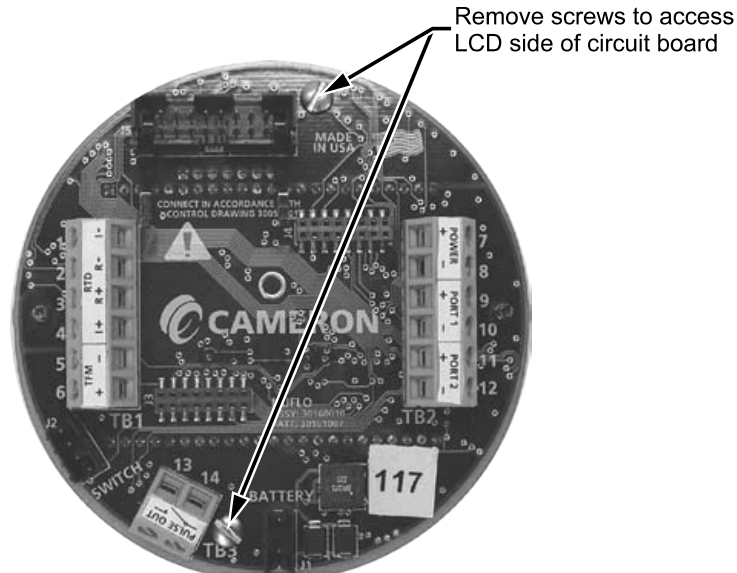

Figure 5.3—Disassembly of circuit board/keypad assembly
9. Remove the two #4-40 × 5/16" screws fastening the circuit board to the keypad (Figure 5.3, page 78).
4. Remove the two #4-40 × 5/16" screws fastening the circuit assembly to the keypad (Figure 5.3, page 78).